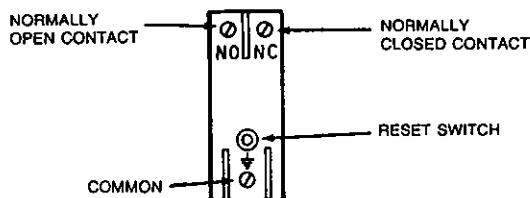

FIGURE 3
4. By use of an ohmmeter, verify that contacts are in their normal (READY) condition. Contact conditions are marked on switch. See Figure 3.